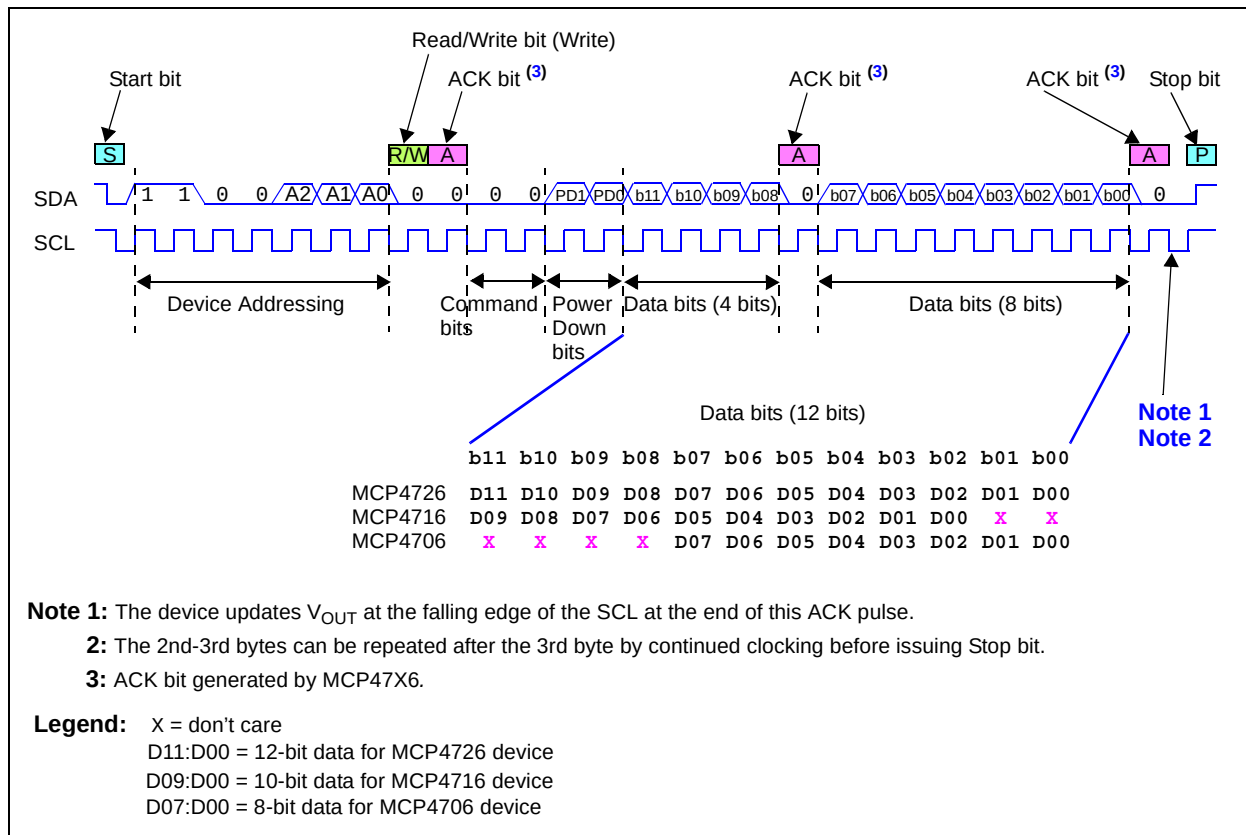
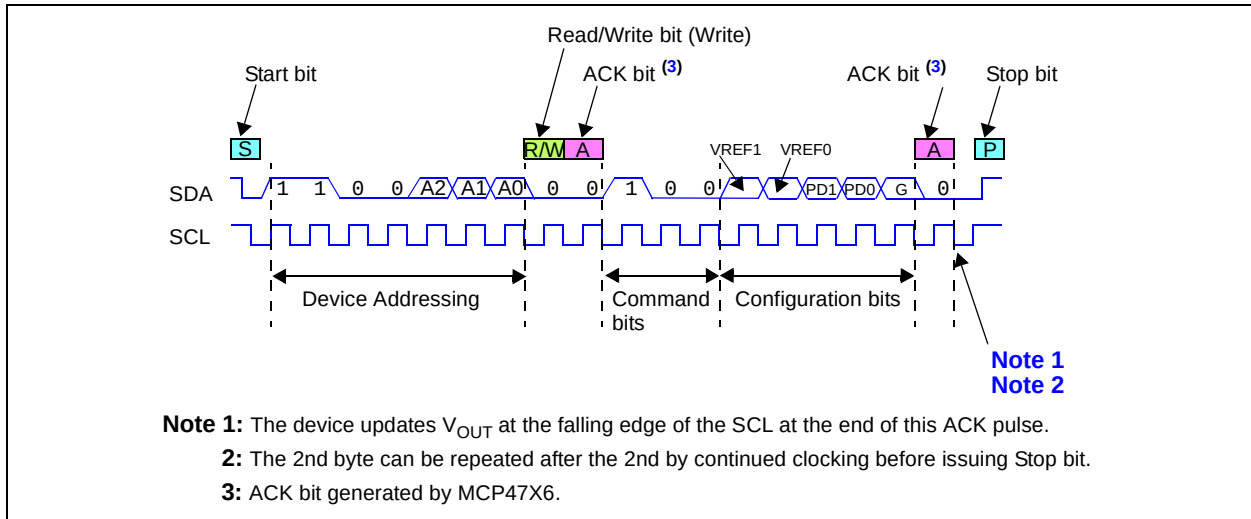

**FIGURE 6-1:** Write Volatile DAC Register Command.
**FIGURE 6-4:** Write Volatile Configuration Bits Command.
**Note 1:** These bits are the MSb of the 2nd byte in the I2C Write command. See Figure 6-1 to Figure 6-4.
Figure 6-1 shows an example of the command format, where a Stop bit completes the command.
This Write command is used to update the volatile Configuration register bits only. This command is a quick method to modify the configuration of the DAC, such as the selection of the resistor ladder reference voltage, the op amp gain, and the power-down state. Figure 6-4 shows an example of this Write command.